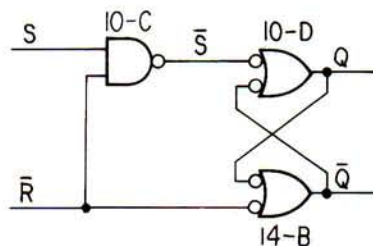

Fig. 1-14
2. Fig. 1-14 shows a Set-reset type of FF basically constituted by 10-D and 14-B (both set and reset are zero priority inputs) with the gate 10-C added for determining the priority of the inputs.